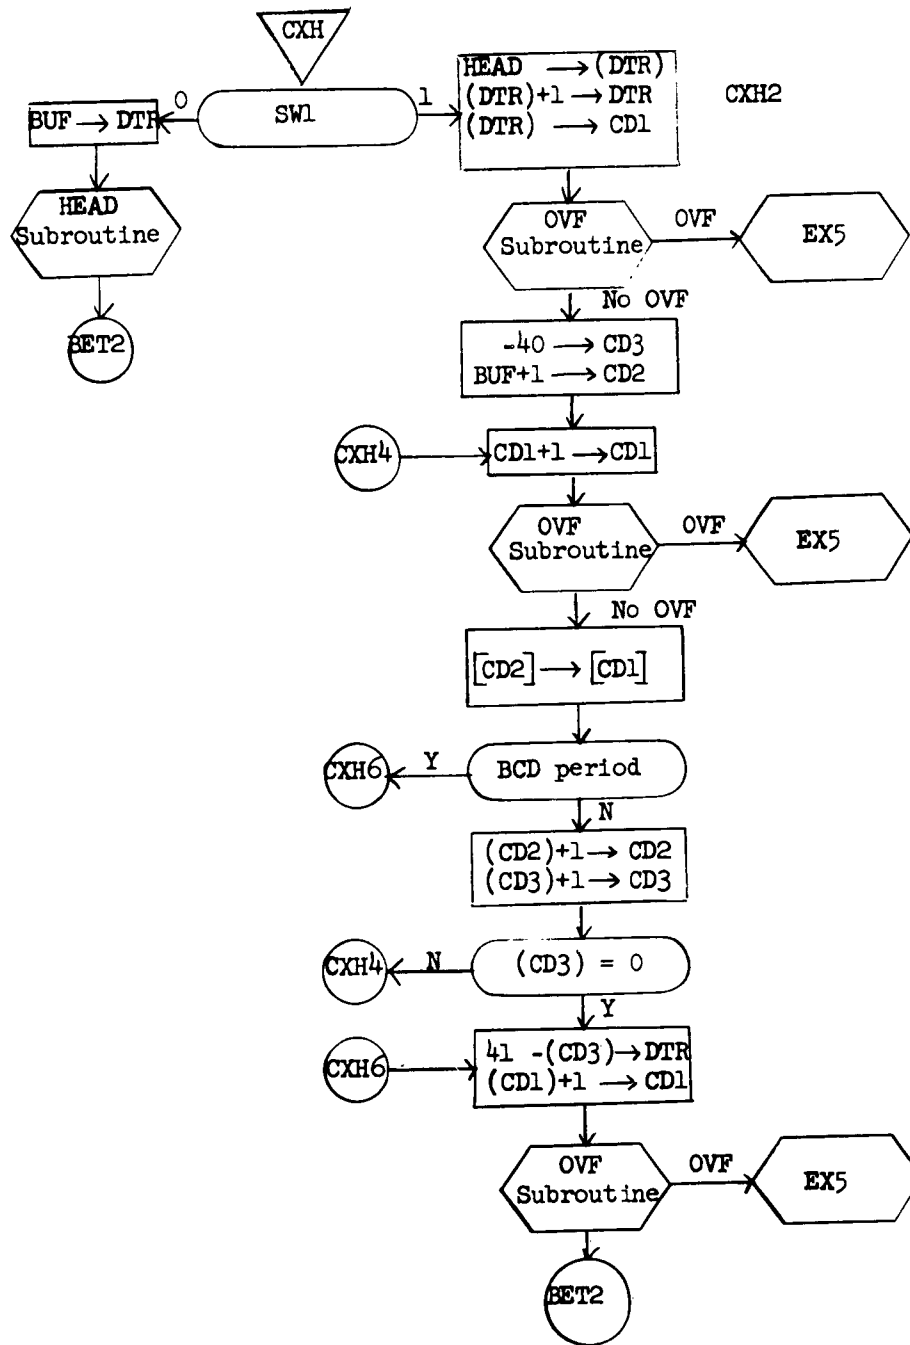

Figure 7.9
7.2.3.6 CXH Heading Command (Figure 7.9)